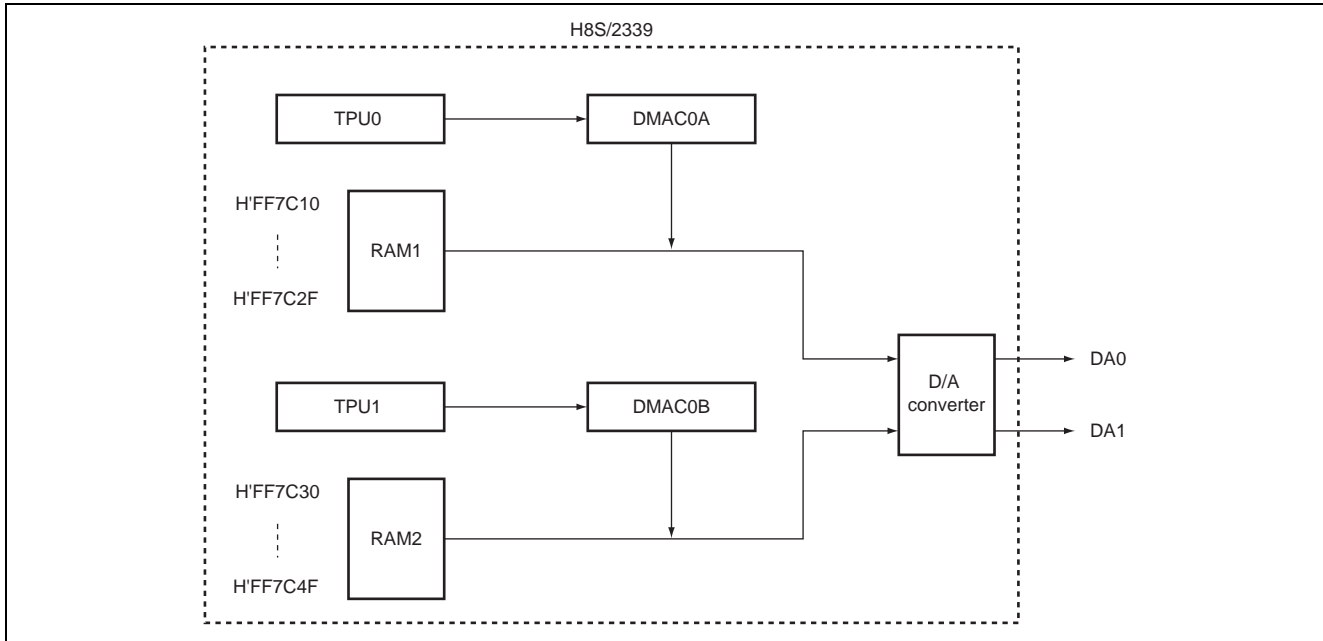

Figure 1 D/A Conversion Block Diagram
1. As shown in figure 1, this sample task starts up the DMACs from ch0 and ch1 of the TPUs to perform D/A conversion of data stored in the RAM.